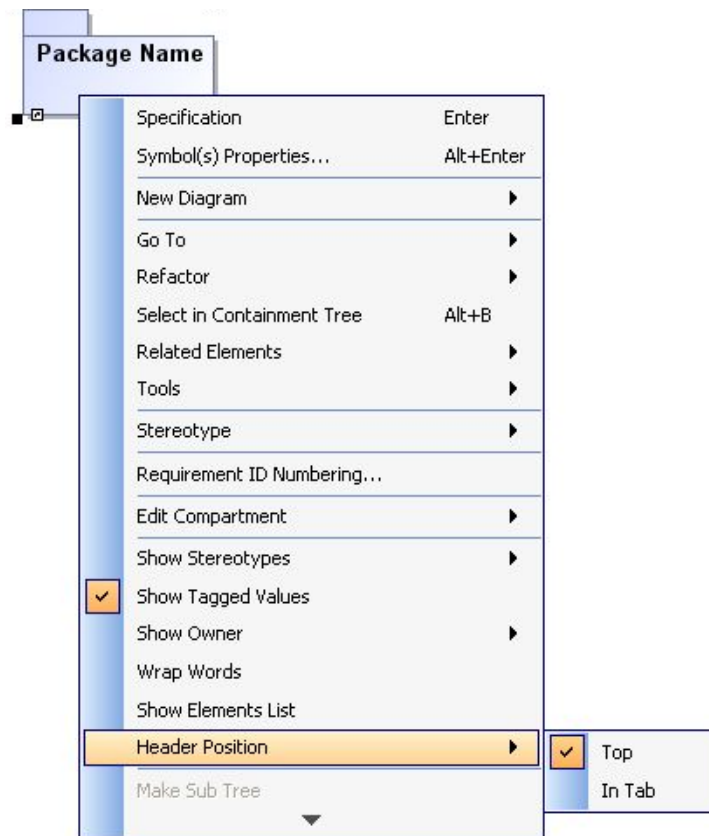

Figure 116 -- Package Shortcut Menu: Header Position
1. Right-click a package and select **Header Position** on the shortcut menu (Figure 116).